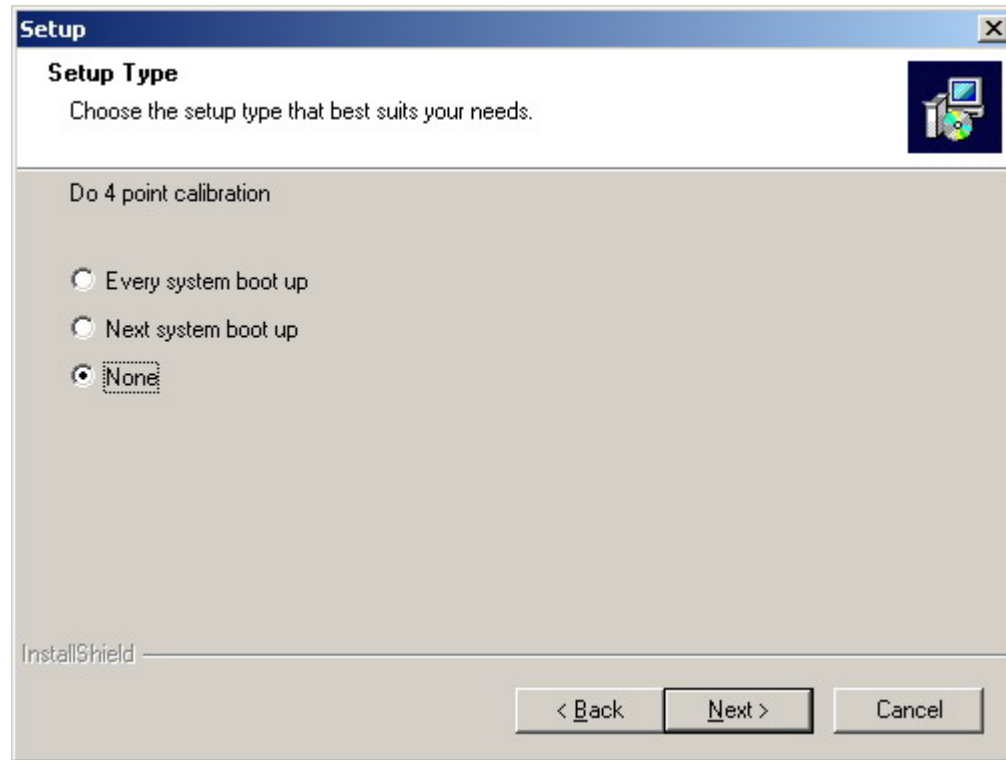

Figure 7-5: Install PS/2 Interface Driver
Step 8: Four point calibration options are then selected (**Figure 7-5**). Four point calibrations can be done every time a user boots up, during the next time the system boots or never. Select if and when a four-point calibration should be done. Click **NEXT** to continue.